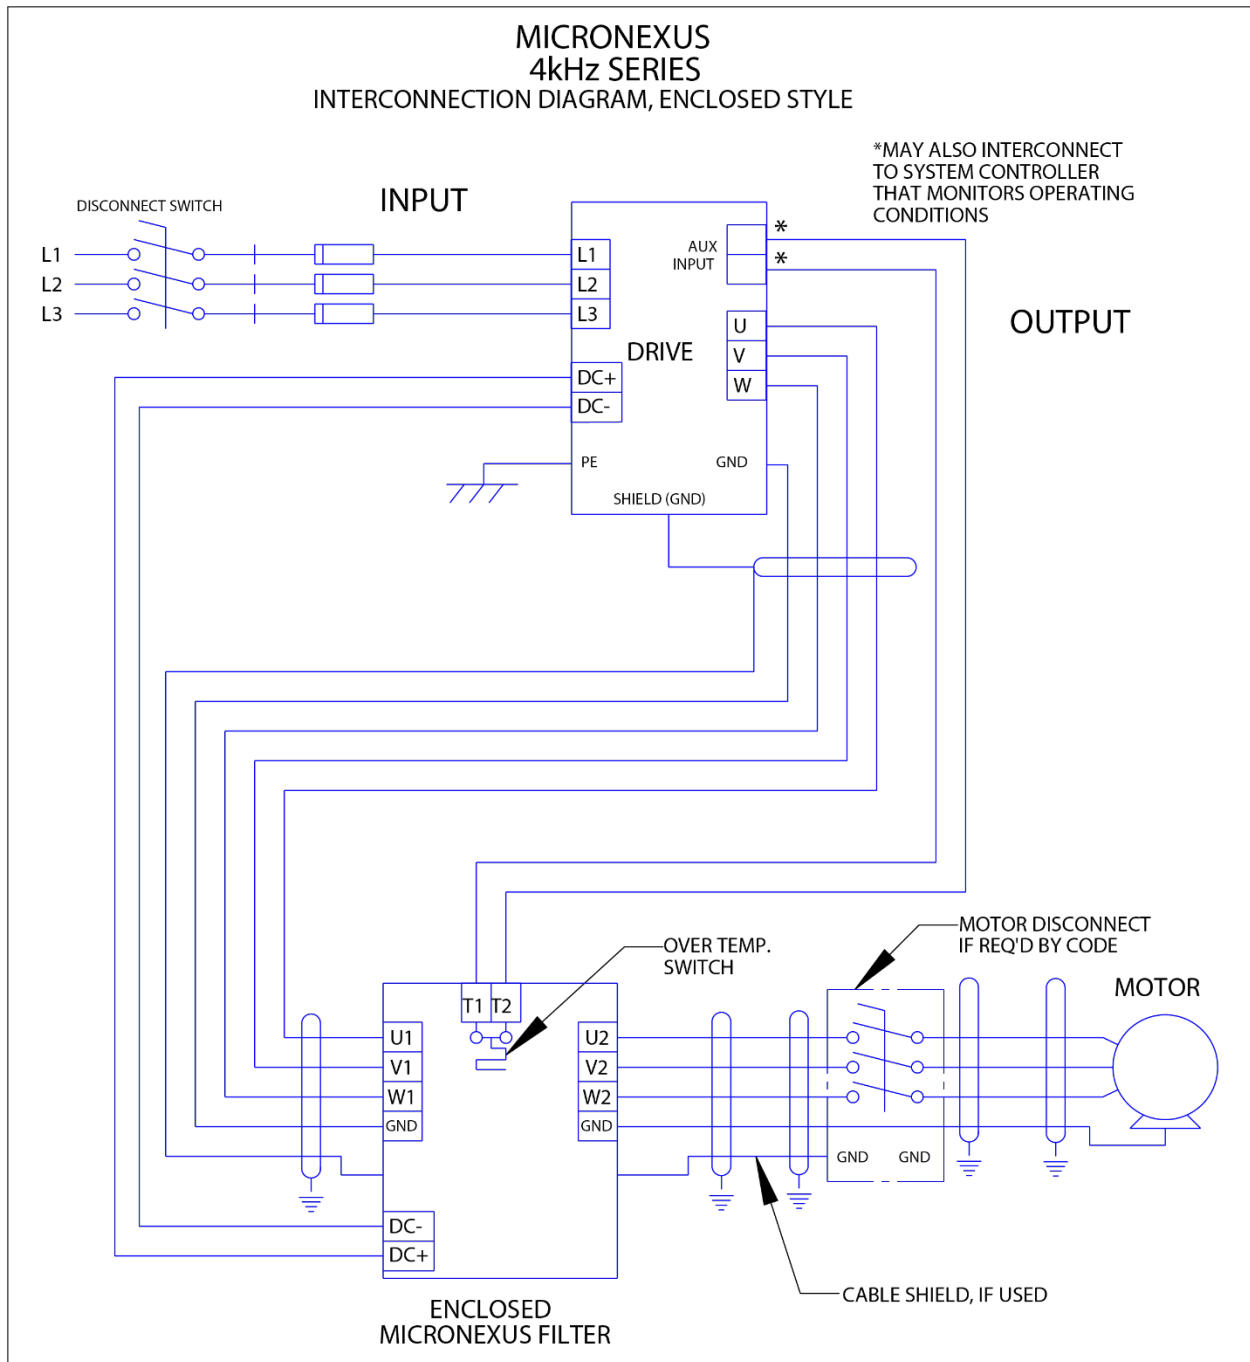

Figure 3-3: Enclosed Interconnection
- Interconnection between the power source, VFD, MTE filter, transformer, and the motor is shown in Figure 3-3: Transformer Diagram (p14).